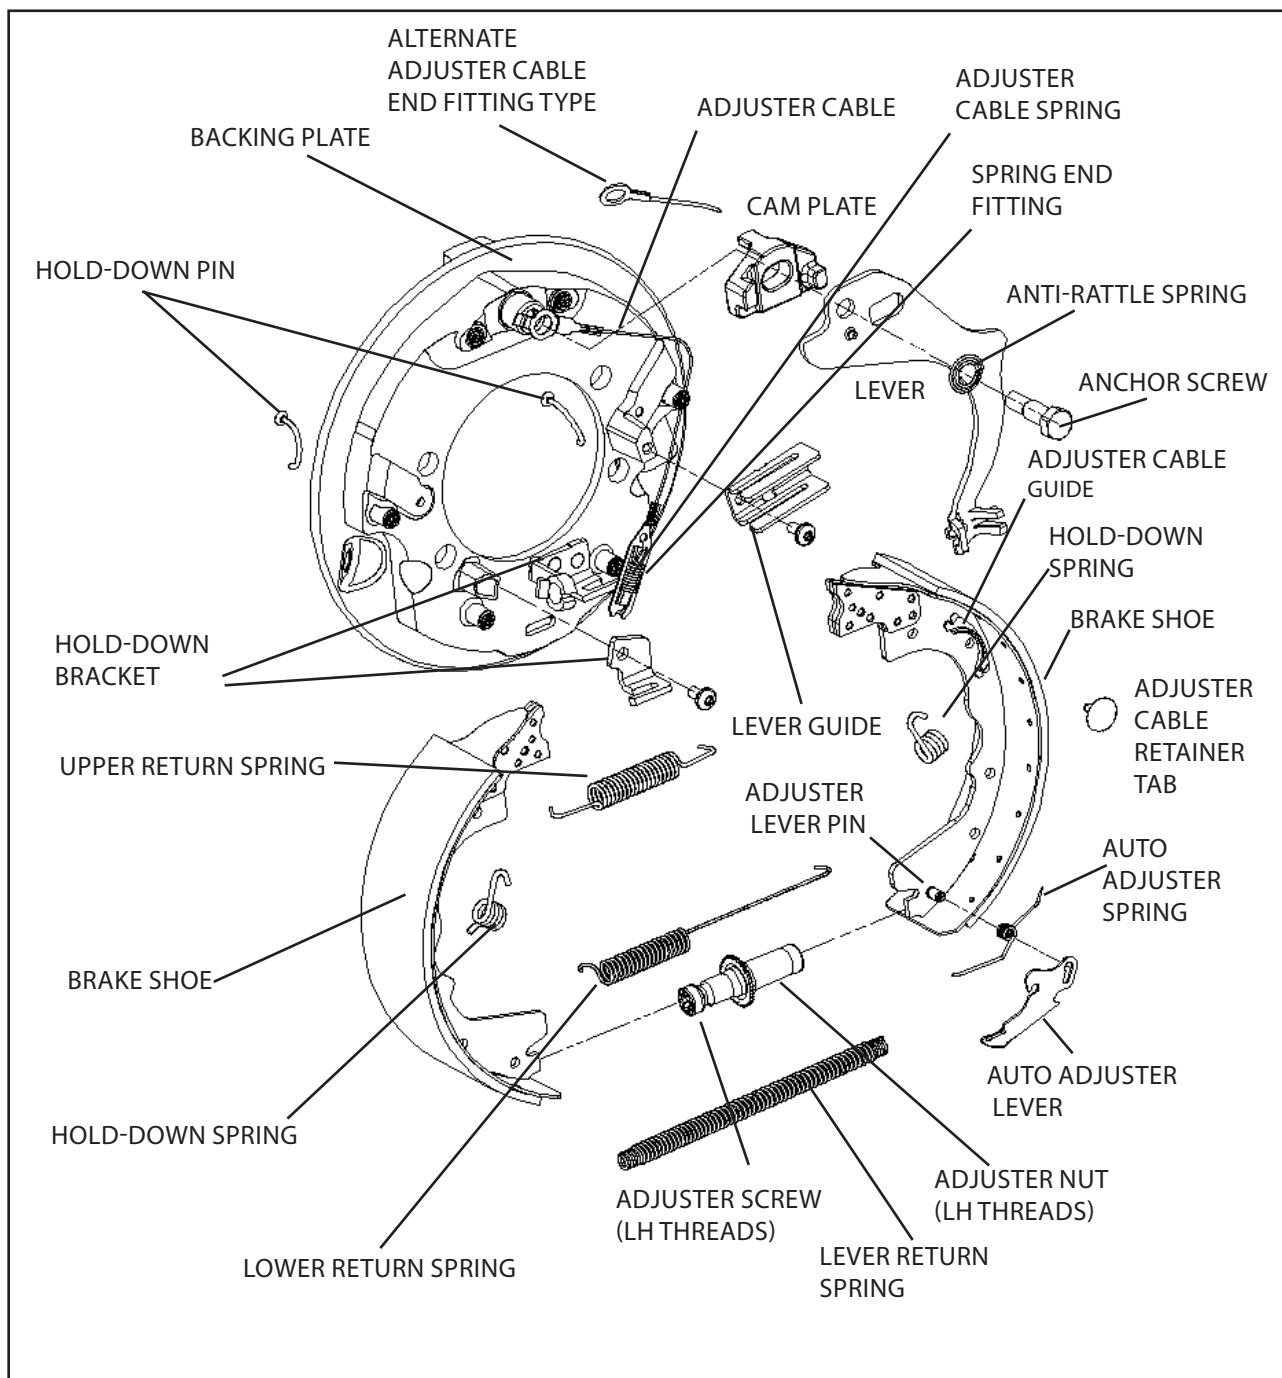

Figure 1.
The foundation of the brake is a ductile iron backing plate. Major actuating components are a cam and a lever, which are fastened to the backing plate by an anchor screw. An anti-rattle spring under the head of this screw reduces clatter. Brakes with hex socket anchor screw (Release 1) will also have two flat washers immediately under the head of the screw. The anchor point for brake actuation and shoe abutment is located at the 12 o'clock position when the assembly is properly mounted. See Figures 1, 2, 3 and 4.
5. Visually inspect the brake lever and cam (Figure 1). If cracks, excessive wear, or abnormal deformation is found in either part, they should be replaced. Light wear, which typically shows up as polishing is acceptable. If unsure, replace brake lever, cam plate and anchor screw. See section on ANCHOR SCREW, LEVER, AND CAM REPLACEMENT for service details.